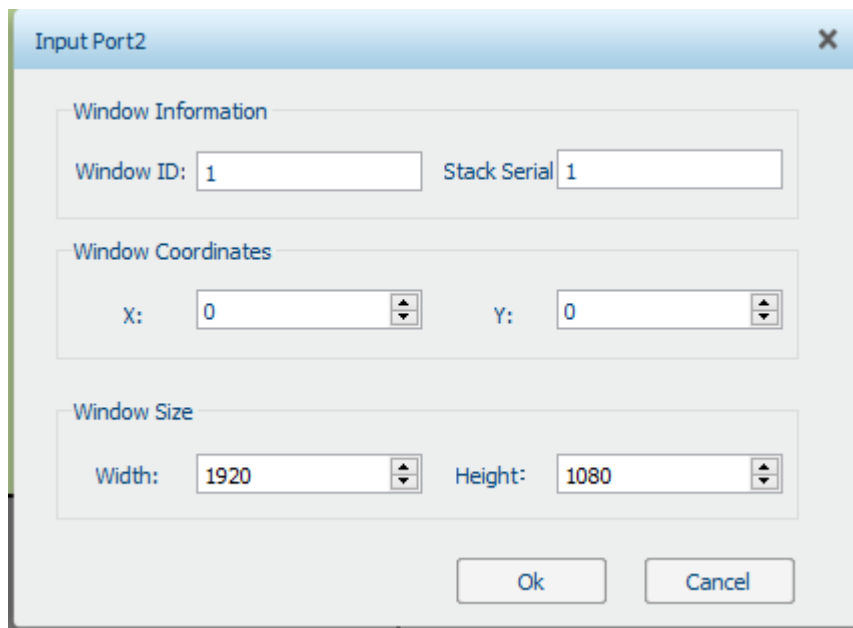

Figure 45: Window property options
- Right clicking on an image on the video wall and then left clicking on the window property option will bring up the window as shown above in figure 45